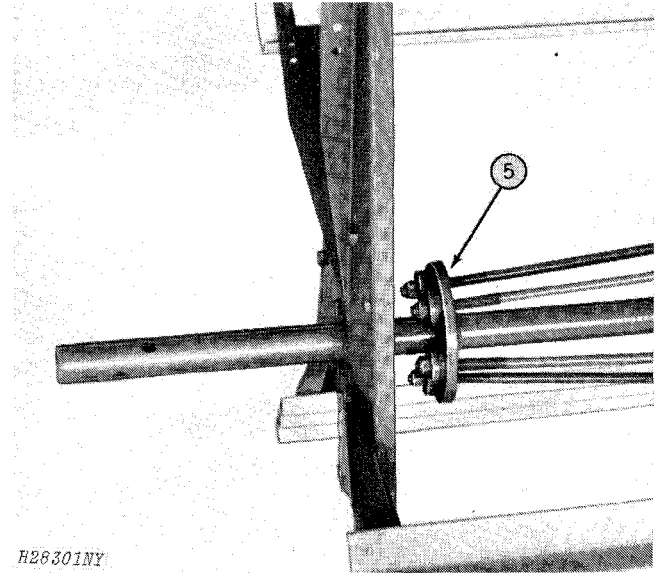

Fig. 58-Attaching Truss Rods
5. (20-, 22-, and 24-ft. Reels) Install a rubber washer, 13/32 x 1-1/4 x .194-inch washer, and 3/8-inch lock nut on both ends of truss rods (Fig. 58).